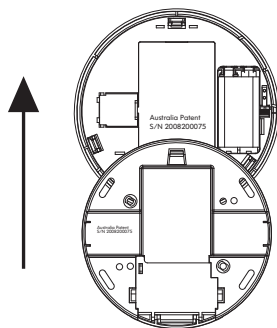

Figure 1: To remove smoke alarm
6.2.1 Separate Smoke Alarm from mounting base by sliding cover (in direction of arrow) with one hand on the back of the mounting base and one hand sliding Smoke Alarm(See Fig. 1).